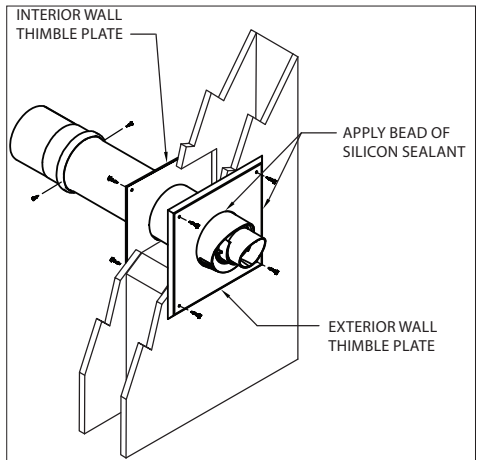

Figure 23
Horizontal Concentric Pipe (Fig.23)
3. Center the Interior Wall Thimble Plate to the wall penetration and secure with the four provided screws. **(Fig.23)**
(Fig.23)